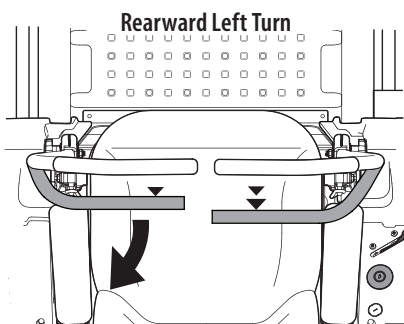

Figure 30
1. To turn to the left while traveling in reverse, move the left drive control lever forward of the right lever (Figure 30).